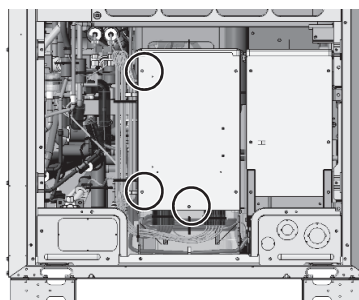

Figure 5
- (6) Remove the cover from the main control box by unscrewing the three screws. (See Figure 5.)